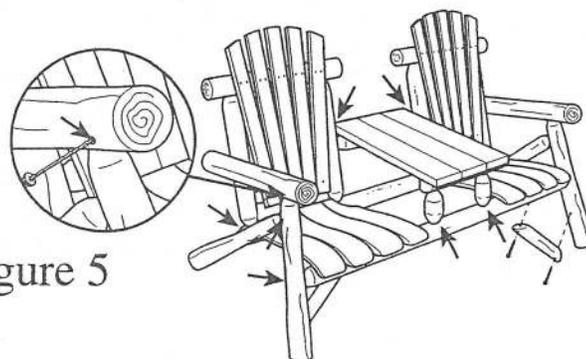

figure 5
STEP 5 Screw a brace on each side of front leg to seat bottom as shown in figure 5. Secure all dowel joints in place that you have assembled, with screws perpendicular to the doweled end as shown in figure 5.